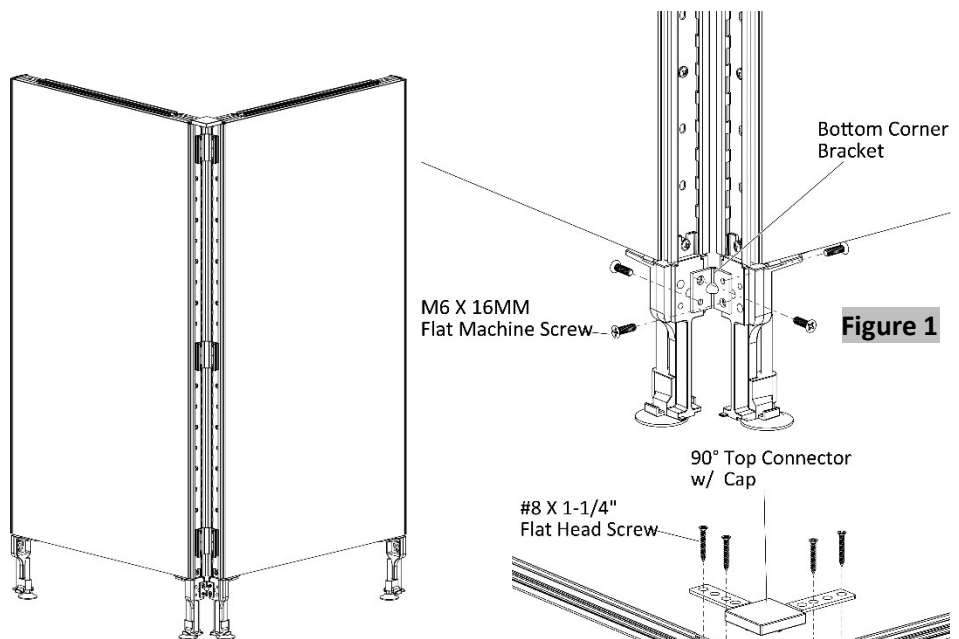

Figure 1
2. Securely fasten bottom corner bracket into panel legs with four M6 X 16MM Flat Machine Screws, (Figure 1).